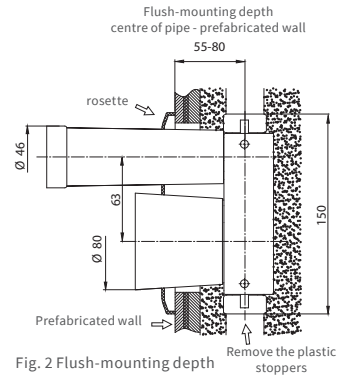

Fig. 2 Flush-mounting depth
- 2.2. The optimal depth for the flush-mounted centre pipe under the prefabricated wall is 55 mm to 80 mm (figure 2). Greater flush-mounting depths require subsequent extension sleeves for the rosette and a two-part spindle extension.
- 2.4. Remove the plastic stoppers (figure 2).